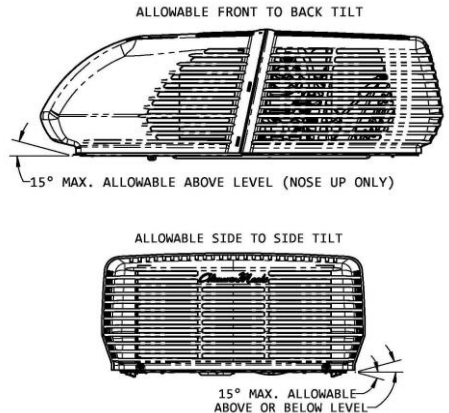

Figure 2
C. The Air Conditioner must be mounted as near level front to rear and side to side as possible when the vehicle is parked level. Figure 2 shows the maximum allowable degree deviations mounting degrees from total surface flat plane).